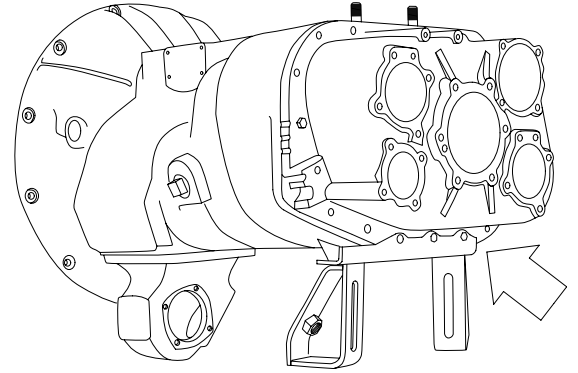

Figure 1
1. Using hardware included in kit, attach two (2) supplied wedges to the Fuller Transmission Adapter.
2. Using transmission hardware, attach the adapter to transmission housing as shown in Figure 1.